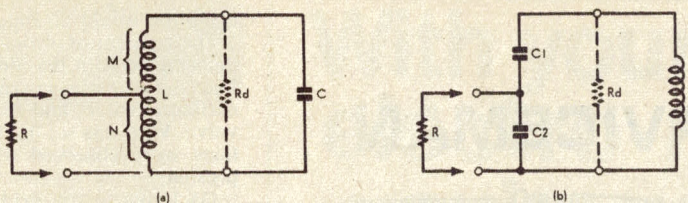

Figure 3: A comparison of the (a) inductive, and (b) capacitive tapping methods.
Probably the reader will be more familiar with the tapped inductor method of transforming impedance, as shown in figure 3(a). This method is frequently used where a relatively low impedance circuit has to be coupled into the resonant circuit without causing it undue disturbance or damping its resonance behaviour. The position of the tap on the inductor is chosen to provide the desired impedance step-up ratio. The lower the position of the tap, the greater the extent to which the impedance of the circuit connected to the terminals is stepped up, as far as the resonant circuit is concerned.
It turns out that the impedance transforming ratio obtained with the capacitive divider system follows a similar "squares" relationship to that obtained with the inductive divider. Thus in figure 3(b), the effective resistance Rd connected across the resonant circuit is related to the actual resistance R connected across the terminals by the equation:
capacitive divider works in both directions. It can step down impedance as well as stepping it up. Thus if an actual resistance  $R_d$  were to be connected right across the inductor  $L$  in figure 3(b), instead of a resistance  $R$  across the terminals, then the action of the capacitive divider would be such that a circuit connected to the terminals would "see" an effective input resistance of value  $R$ . In other words we can quite validly rearrange equation (2) to read:
across  $C_2$  of figure 3(b), not only does an effective resistance of value  $R_p$  appear across capacitor  $C_1$ .